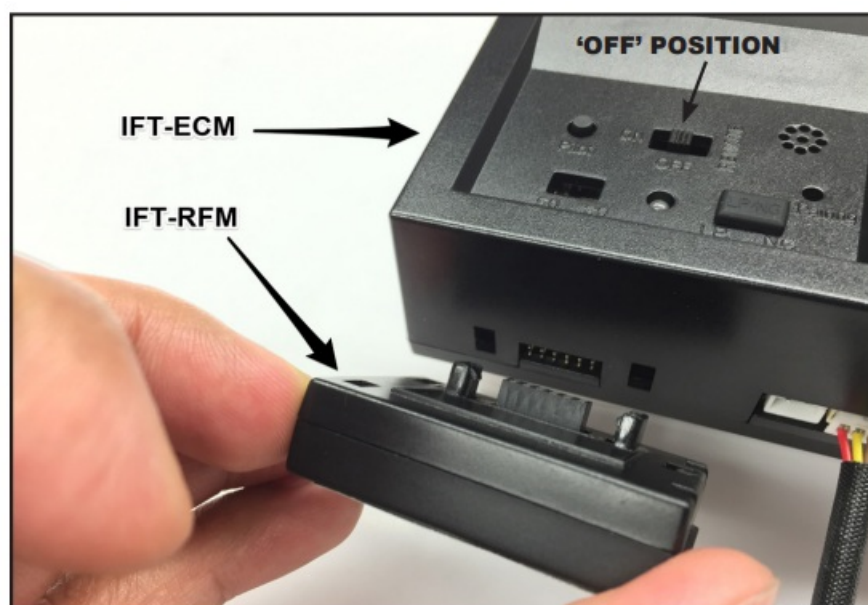

Figure 1 Connect IFT-RFM to IFT-ECM
2. Locate the IntelliFire Touch electronic control module (IFT-ECM) in the control cavity of the appliance and move the three-position switch to the OFF position. See Figure 1.
3. Connect the IFT-RFM to the IFT-ECM by aligning the pins and tabs and pushing the IFT-RFM into the IFTECM until both tabs snap into position. Ensure the two components are fastened securely to one another. See Figure 1.